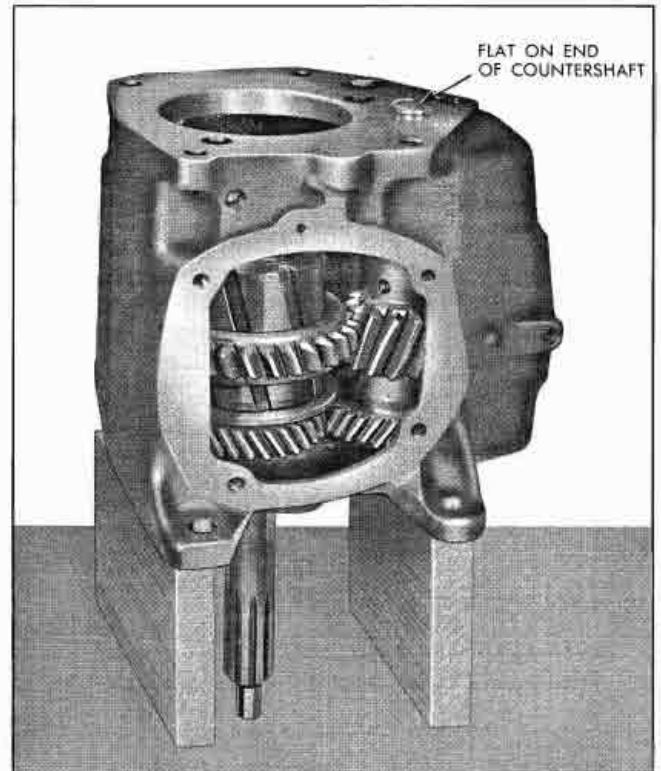

Fig. 7-52 Position of Transmission Case Assembly for Installation of Mainshaft Assembly
4. Position transmission case to receive mainshaft (Fig. 7-52).